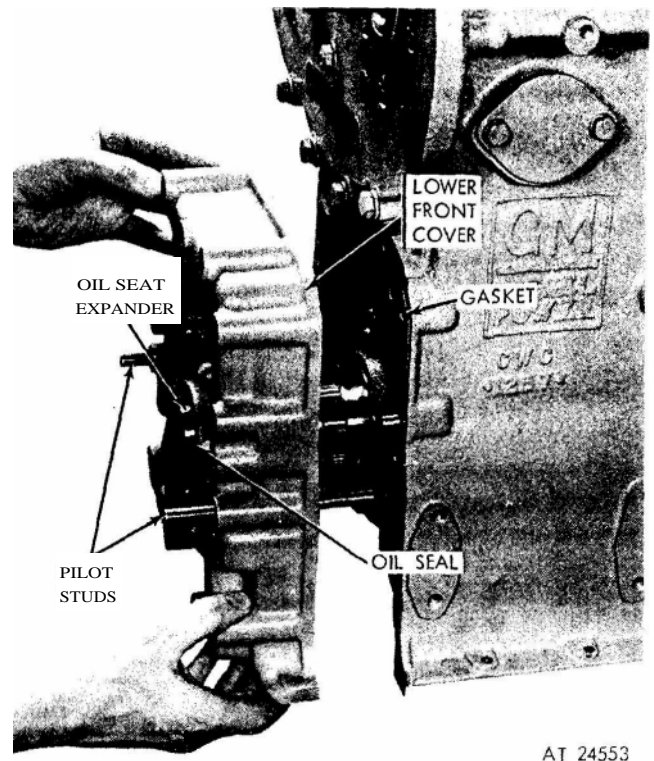

Figure 2. Installing crankshaft front cover—in-line engine.
4. Apply a light coat of cup grease to the lip of the oil seal. Slide the engine front cover over the oil seal expander and pilot studs as shown in figure 2. Push the cover forward until the inner rotor of the oil pump contacts the pump drive gear on the crankshaft. Rotate the crankshaft slightly to align the teeth, then push the cover up against the gasket and block. Do not force the cover.